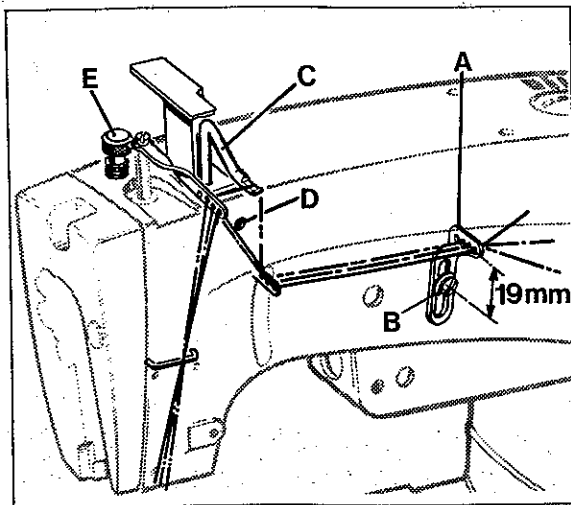

Fig.7
Set the frame eyelet (A, Fig. 7) 19 mm (3/4 in.) above the center of mounting screw (B). Lower it for more needle thread, raise it for less needle thread in the stitch.
The pressure on the presser foot should be just as strong as to feed the fabric to be sewn uniformly. The pressure exerted by the presser spring should be slightly stronger than the pressure exerted by the spring(s) for the presser foot yielding section(s). The regulator (E, Fig. 7) is located left on the top of the machine arm. Turning it clockwise increases the pressure, turning counterclockwise acts the reverse.
Stellen Sie die Fadenführung am Gehäuse (A, Fig. 7) 19 mm hoch zur Mitte der Befestigungsschraube (B) ein. Tieferstellen ergibt mehr, höherstellen weniger Nadelfaden in der Naht.
Die Stellschraube (E, Fig. 7) befindet sich links oben auf dem Maschinenarm. Drehen im Uhrzeigersinn verstärkt den Druck, drehen im Gegenuhrzeigersinn verringert ihn.